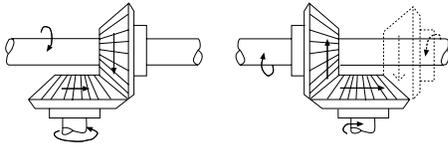

Figure 5.8
**Take Note:** By changing the driven gear from one side of the driver to the opposite side, the rotation of the shaft will be reversed (in both open and enclosed bevel gearing). This is important to remember whenever shaft rotation is important to an application. (See Figure 5.8)